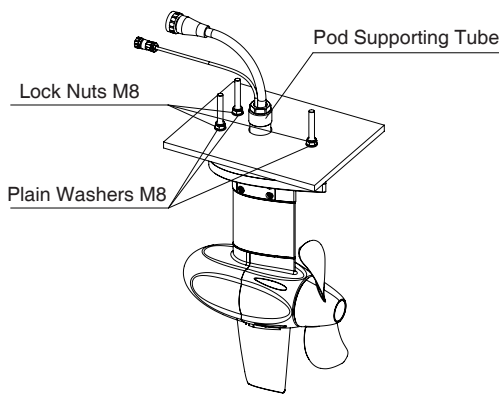

Figure 3-2
Step 2: Hold the pod motor and insert its three M8 bolts and supporting tube into the holes from below the hull bottom. Then lock each M8 bolt from inside the boat by a plain washer and a nut (Figure 3-2).